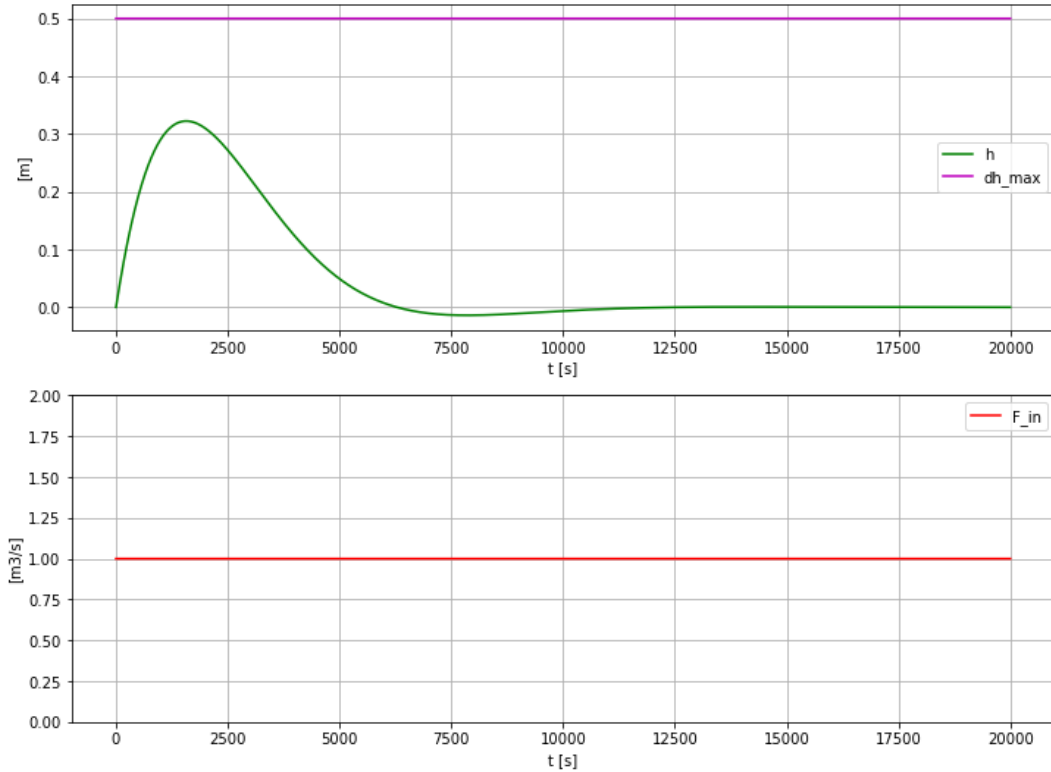

Figure 6: Problem 9: Plot of simulated level.
1. (6 %) Figure 6 shows a plot of the simulated level. The level margin is approximately 0.18 m.